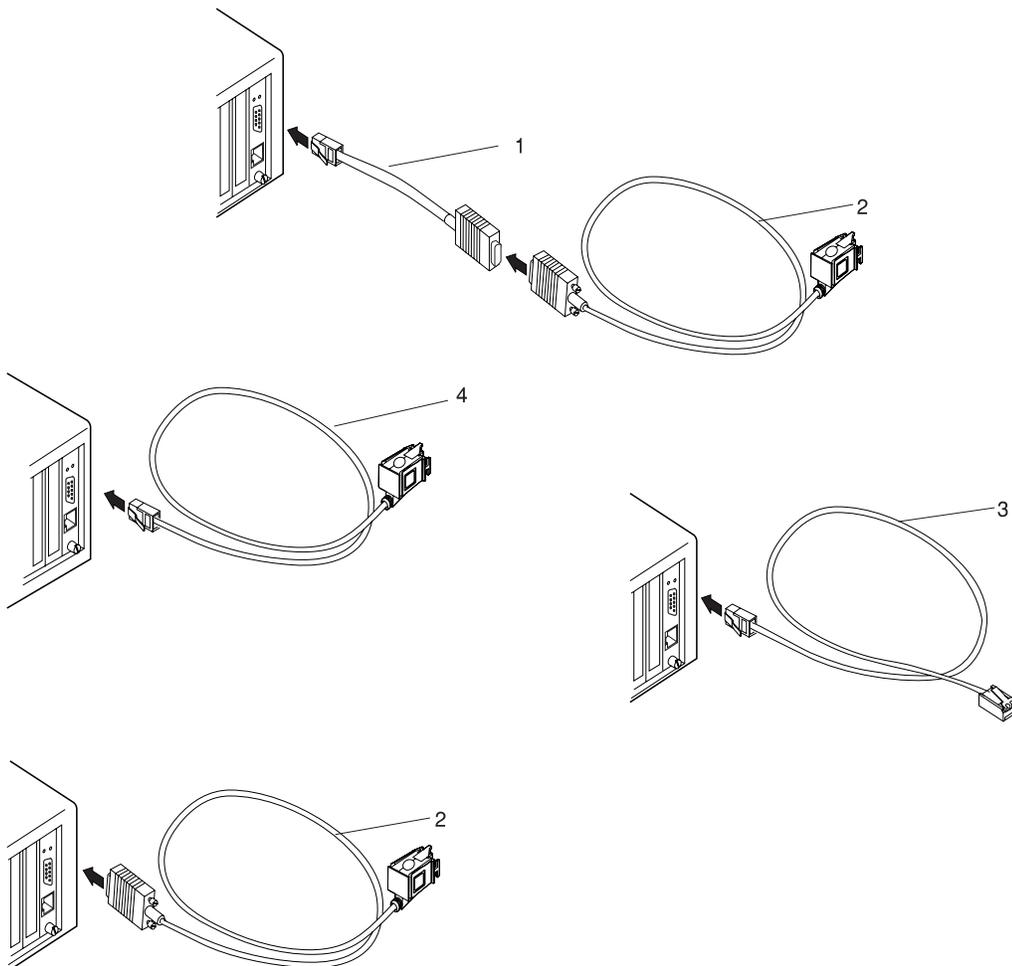

Figure 5-2. Connecting an Adapter Cable to Adapter Type 9-O
1. Connect the adapter cable to the adapter connector as illustrated in Figure 5-2 on page 5-2. See Appendix A, "Adapter Cables" on page A-1, for detailed descriptions of the compatible cables.